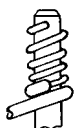

Figure 8. Separated Turns Resulting From Insufficient Pressure.
- e. Insufficient pressure on the tool when wrapping may cause separation between turns. Complete turns may be separated, provided the spaces between inside wraps are no more than .005 inch as gauged by eye. (Figure 8)